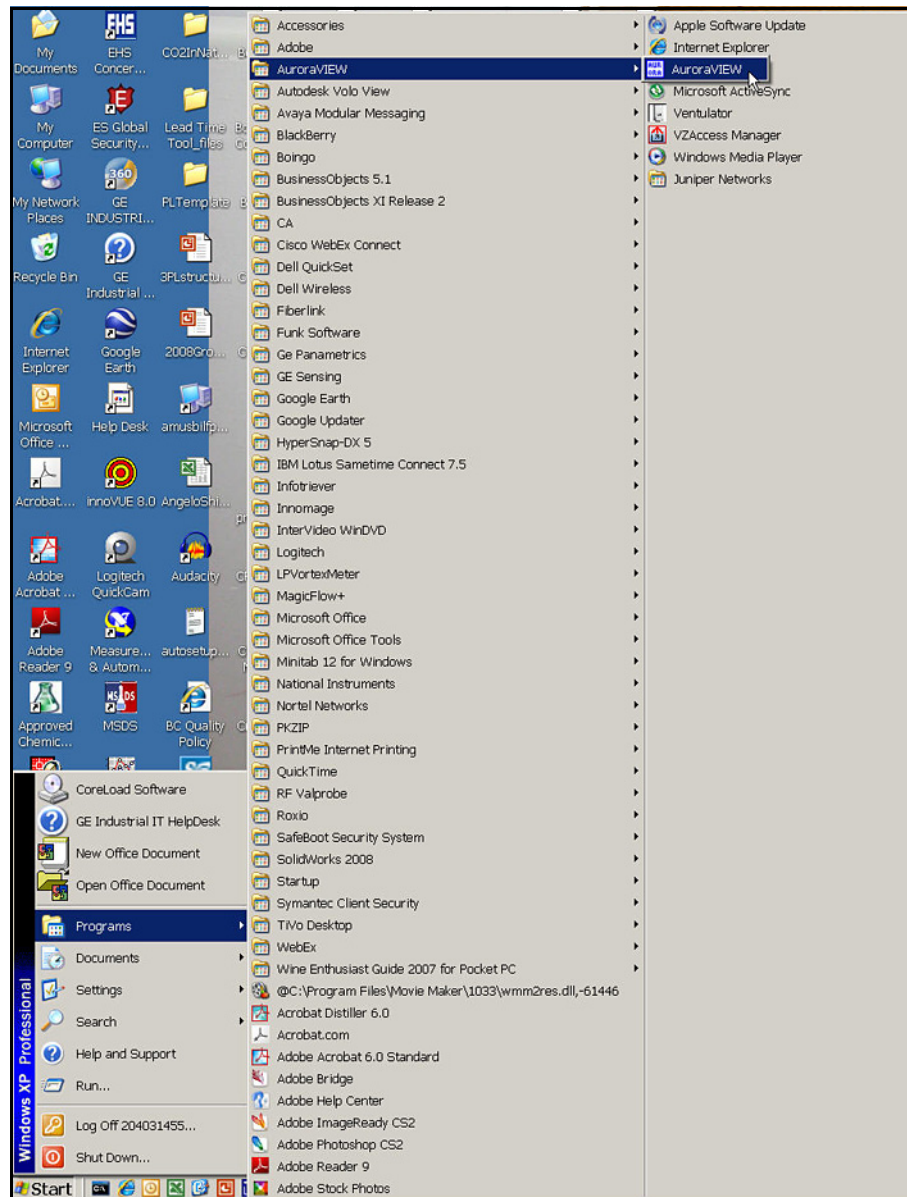

Figure 54: AuroraView in Programs Menu
1. From the Start menu, click Programs → AuroraView → AuroraView (see *Figure 54* below).